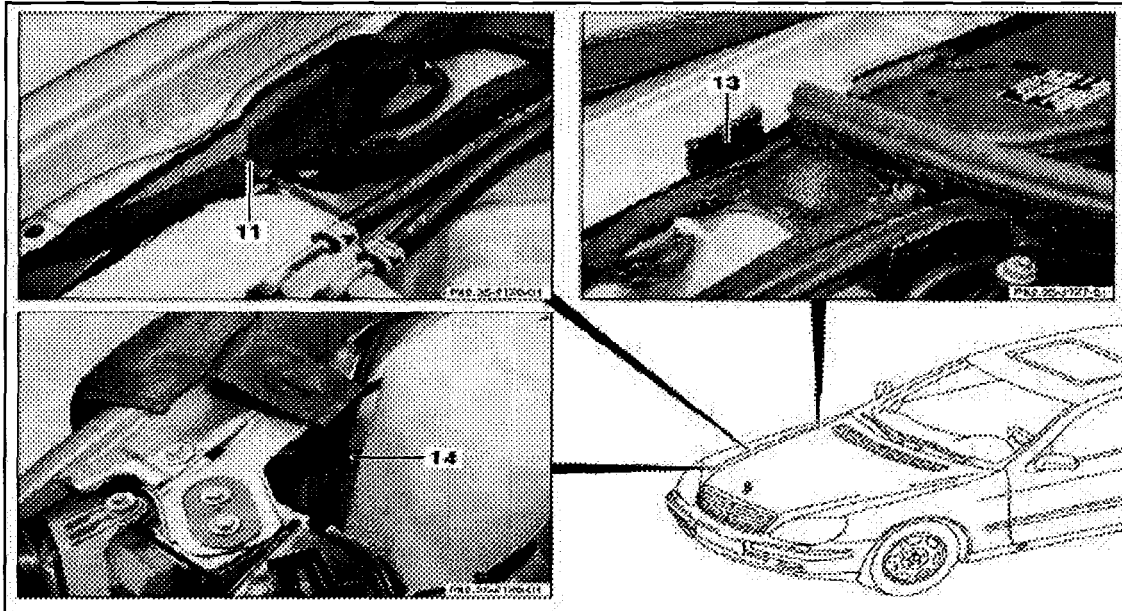

Figure 5
18. Route washer fluid hose along right hand side of vehicle, as removed prior. Ensure that the washer fluid hose is securely seated into protector (13, Figure 5), and runs underneath mounting cradle (14, Figure 5). While routing the washer fluid hose, ensure that it is not pinched by the right hand engine hood hinge, when the engine hood is opened or closed.
23. Reinstall cable duct cover (11, Figure 5).